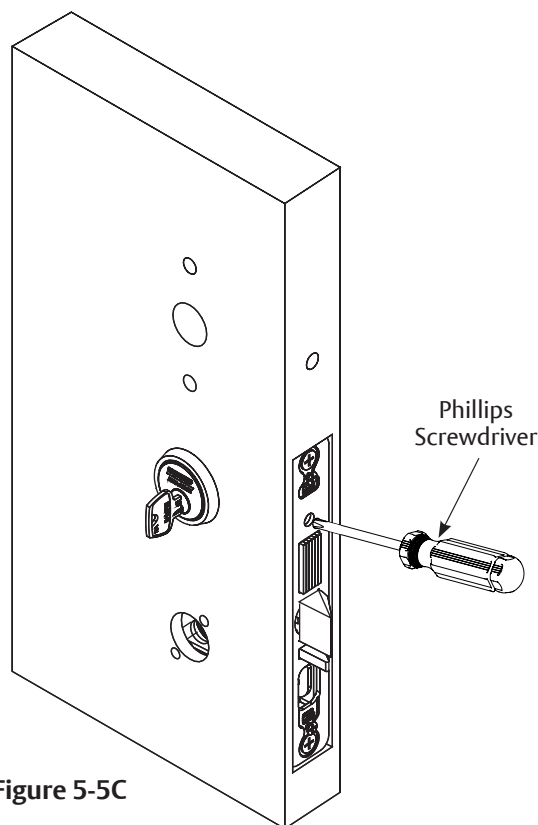

Figure 5-5C
5. Hand tighten the cylinder clamp screw with Phillips screwdriver to prevent unscrewing of the cylinder (Figure 5-5C).